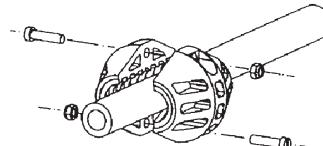

Fig. 5
2. Place the hose stopper at the hose outlet end (fig. 5).
3. Place the hose stopper at the new hose outlet end (fig. 5).